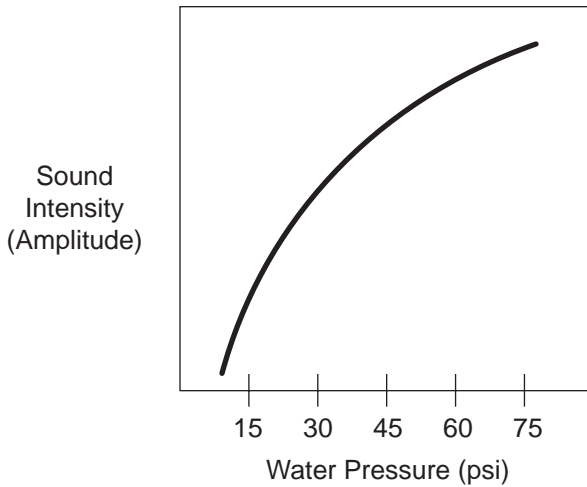

Figure 4-1 Sound Intensity vs. Water Pressure Graph
- * Pressuring to 50-60 psi or more will greatly aide detection. The intensity or loudness of water leak sounds increases greatly with increasing water pressure (see Figure 4-1).